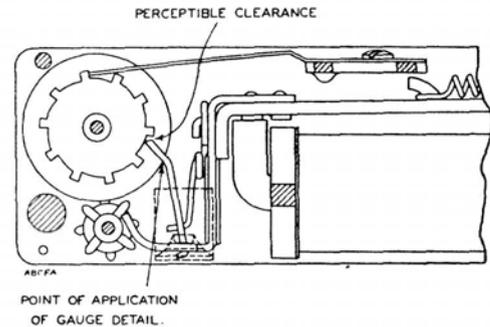

FIG. 8.—ADJUSTMENT OF OPERATING PAWL
**10. Operating pawl.**—The operating pawl must be free on its bearings. There must be a perceptible clearance between the tip of the operating pawl, and the ratchet tooth when the armature is operated (see Fig. 8).
pawl tip as possible (see Fig. 8). Do not attempt to adjust the spring; if the pressure is not within the tolerances allowed, change the spring. ["Part No. 1/SSP/622."]